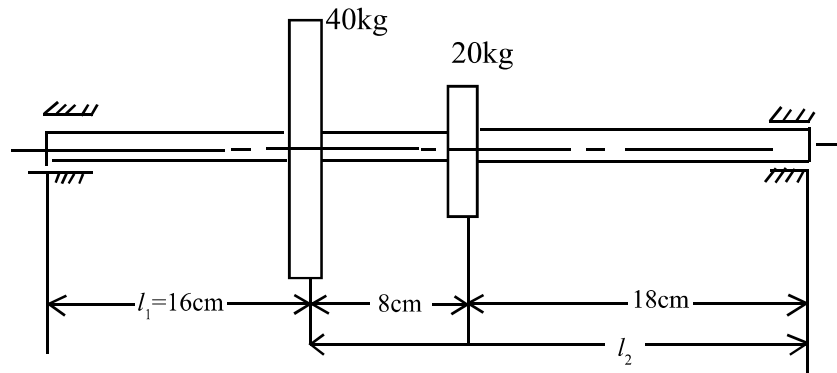

Fig. 2
7. Find the lowest natural frequency of transverse vibrations for the beam shown in Fig 2. By Rayleigh method.